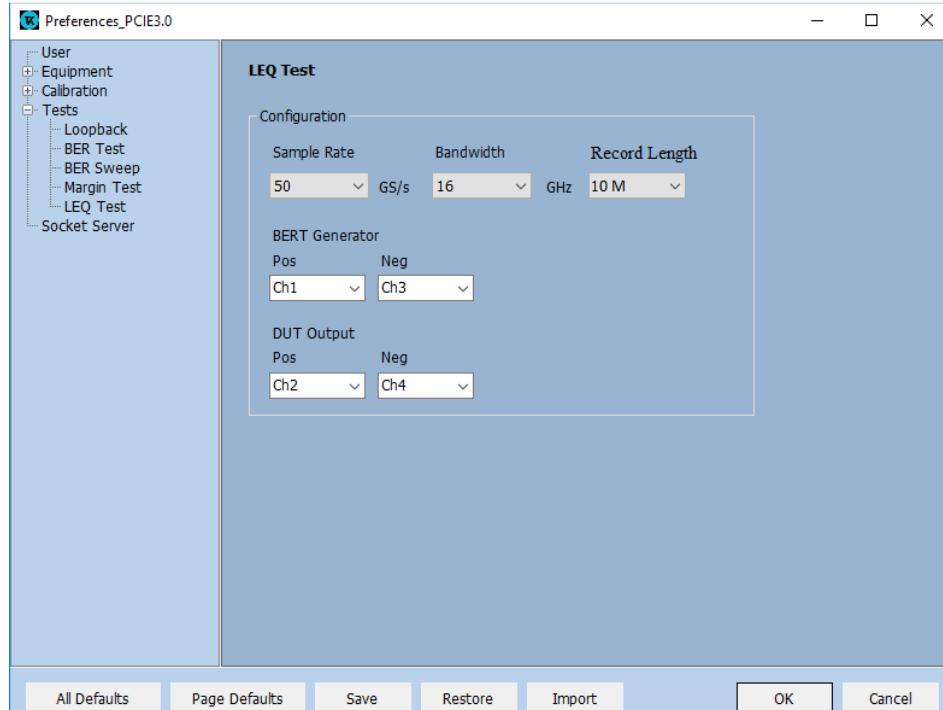

Figure 33
2. Launch the BERTScope PCIE4.0 Receiver Testing app and click on Preferences and configure the Oscilloscope to Sample rate 50GS/s, Record Length 10M. Set the Channels according to connection (Figure 1) and Bandwidth at least 16GHz as shown in Figure 33 in LEQ Test Panel inside Tests tree view (This is one-time Configuration).
2. Configure the Oscilloscope to Sample rate 50GS/s, Record Length 10M.Set the Channels according to connection (Figure 1) and Bandwidth at least 16GHz as shown in Figure 33 in Preferences LEQ Test Panel.